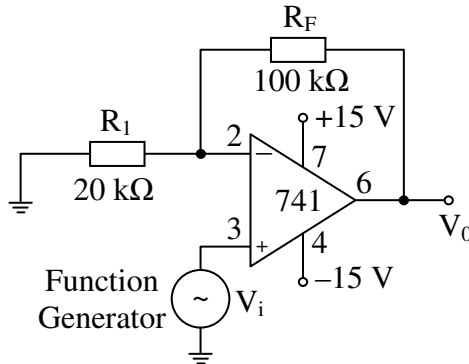

Fig. 9.7 Noninverting amplifier: experimental circuit
- Construct the circuit of Fig. 9.7. Measure and record resistor values: